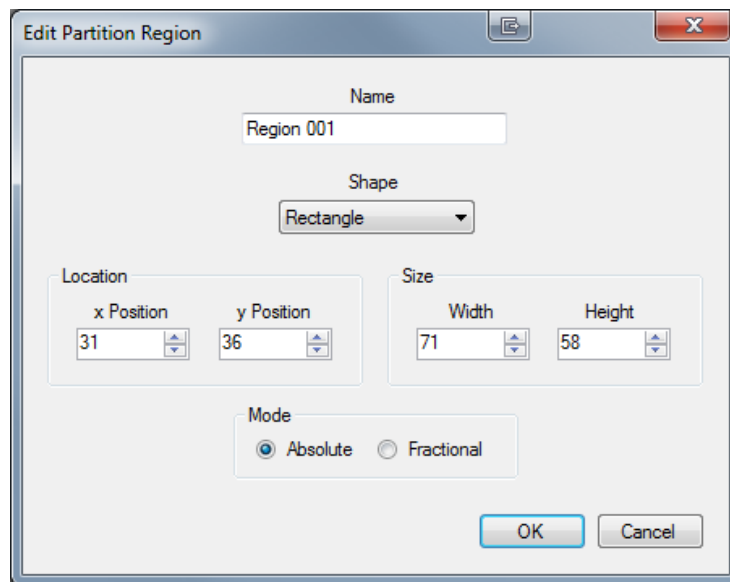

Figure 3.19 A Partition ROI Properties Window
4. Right-clicking inside any ROI and choosing **Edit...** allows the region name to be changed as well as the shape, location, size, and Mode of the domain (**Figure 3.19**). Click **OK** when complete.